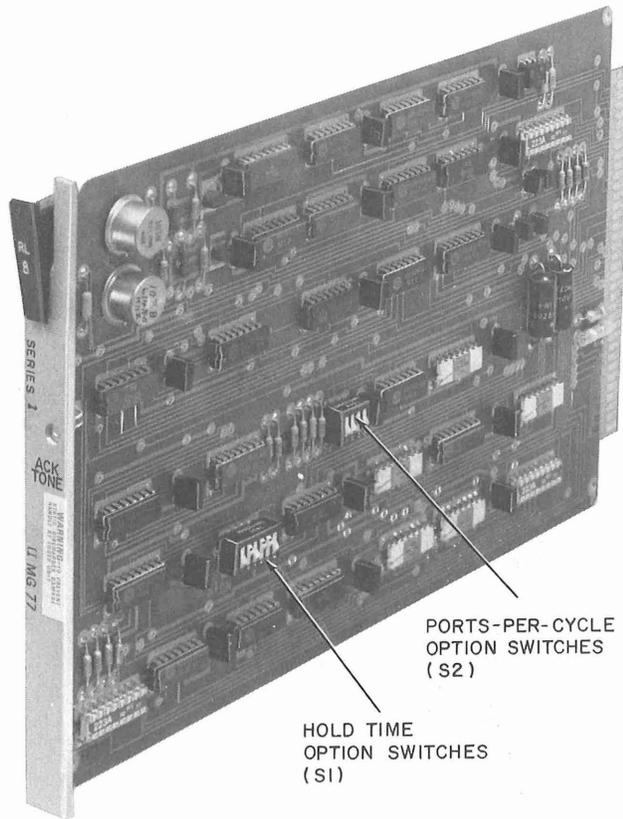

Fig. 13—RL8 CP—Digital Control Circuit for Addressable Offering
2.12 RL8 CP (Fig. 13): One indicator (ACK TONE) is mounted on the faceplate of the circuit pack. The RL8 CP is 6-3/8 inches high, 5/8 inches wide, 10 inches deep, and weighs approximately 1/2 pound.